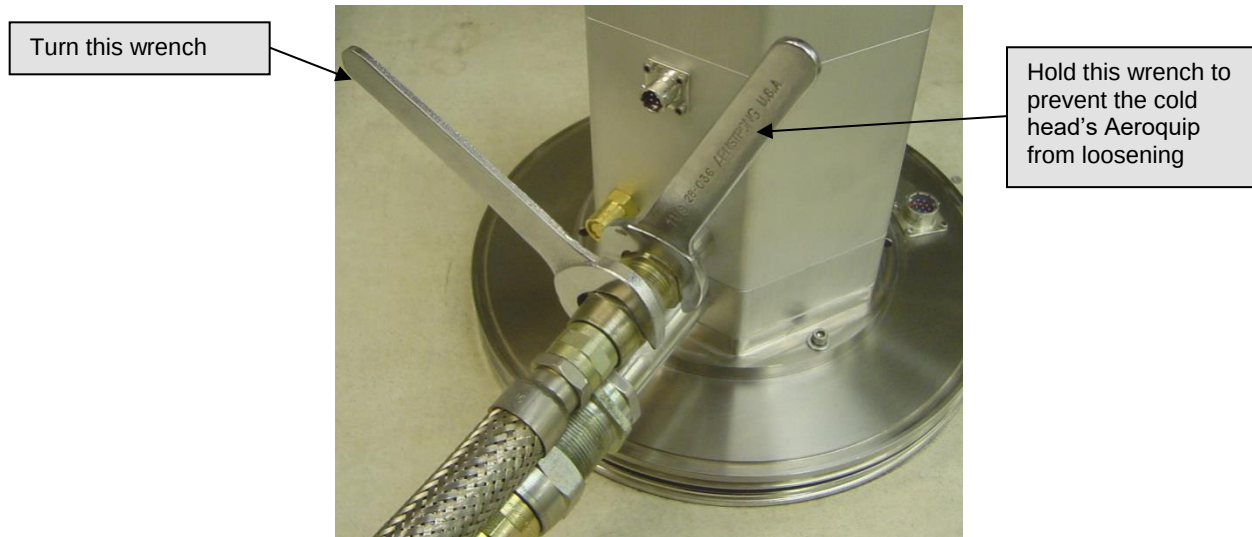

Figure 7-2: Disconnecting flex lines from a cold head
- 10) Disconnect the Aeroquips® on the high- and low-pressure fittings on the cold head by turning the flexible line's Aeroquip® counter-clockwise with one wrench while holding the cold head's Aeroquip® with the other wrench. See Figure 7-2.